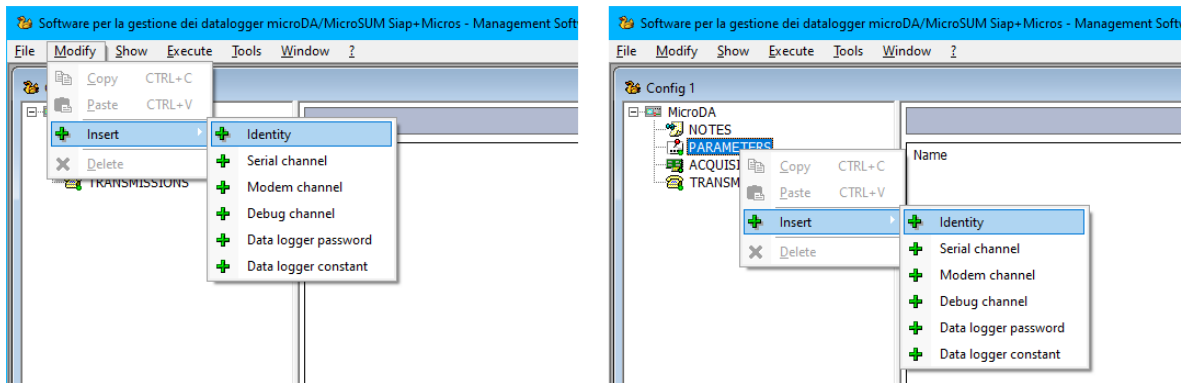
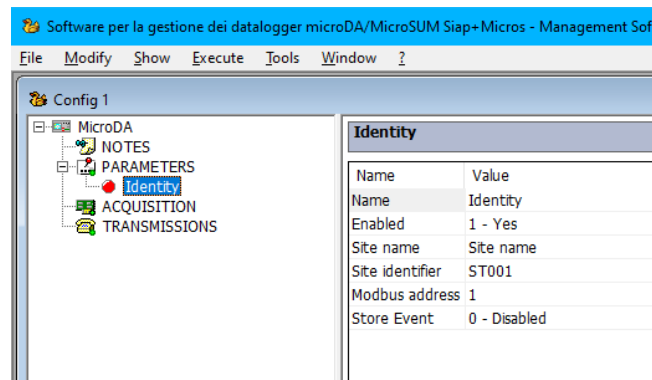

Figure 13.3: insert an entry from Parameters section.
Figure 13.4: example of configurable fields of the datalogger identity.
- From *Modify* menu select *Insert*, a list of all elements available for that section will appear (Figure 13.3 right).
- Alternatively, right-click on the section and select *Insert* (Figure 13.3 left).
For example, Figure 13.3 shows how to insert the identity of the datalogger from Parameters section and Figure 13.4 shows how the configuration tree will appear after the insertion of the identity. Please note that the configuration fields are listed on the adjacent window where the user can change their values.